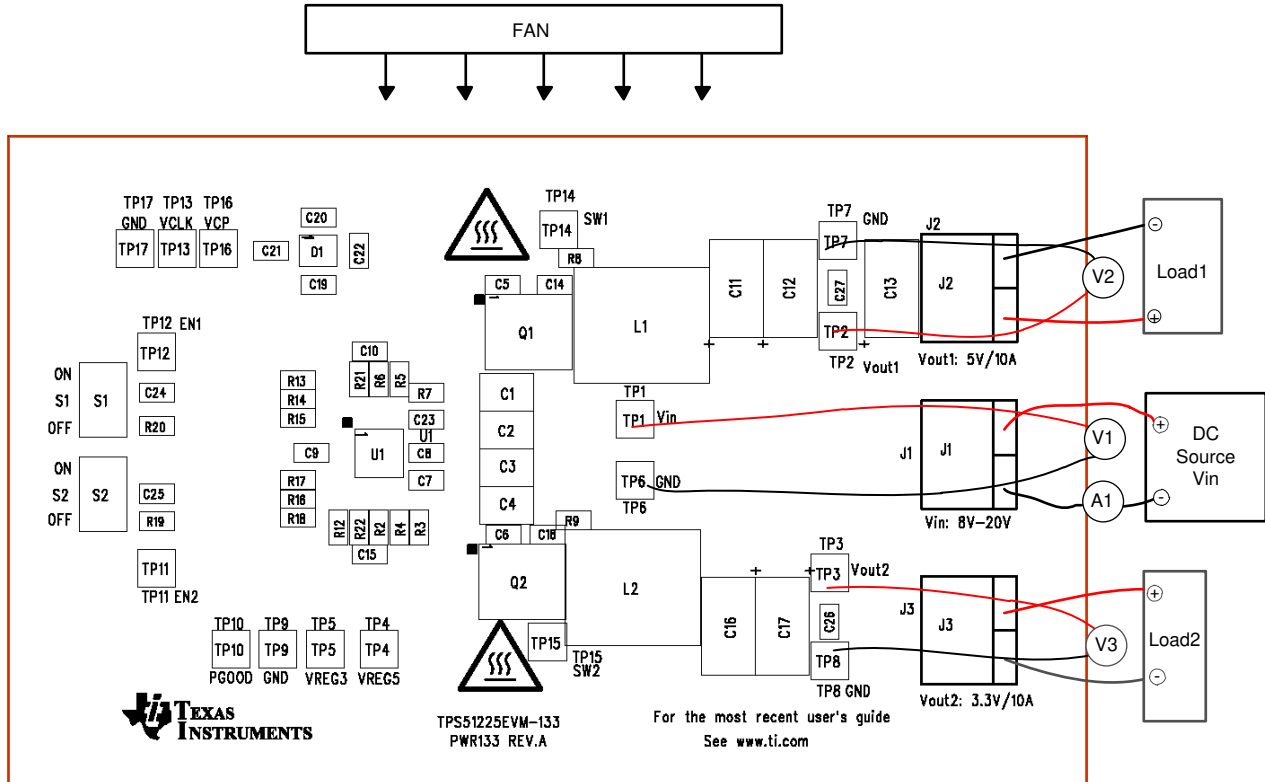

Figure 4-2. TPS51225EVM-133 Recommended Test Setup
Voltage Source: The input voltage, V_{IN} , should be a 0-V to 20-V variable DC source capable of supplying 10 A_{DC} . Connect V_{IN} to J1 as shown in Figure 4-2.
Figure 4-2 is the recommended test setup for evaluating the EVM. Working at an ESD workstation, make sure that any wrist straps, bootstraps, or mats are connected referencing the user to earth ground before power is applied to the EVM.
1. Prior to connecting the DC input source, V_{IN} , it is advisable to limit the source current from V_{IN} to 10-A maximum. Make sure V_{IN} is initially set to 0 V and connected as shown in Figure 4-2.
Place a fan as shown in Figure 4-2 and turn it on, making sure air is flowing across the EVM.
1. Set up the EVM as described in Section 4 and Figure 4-2.